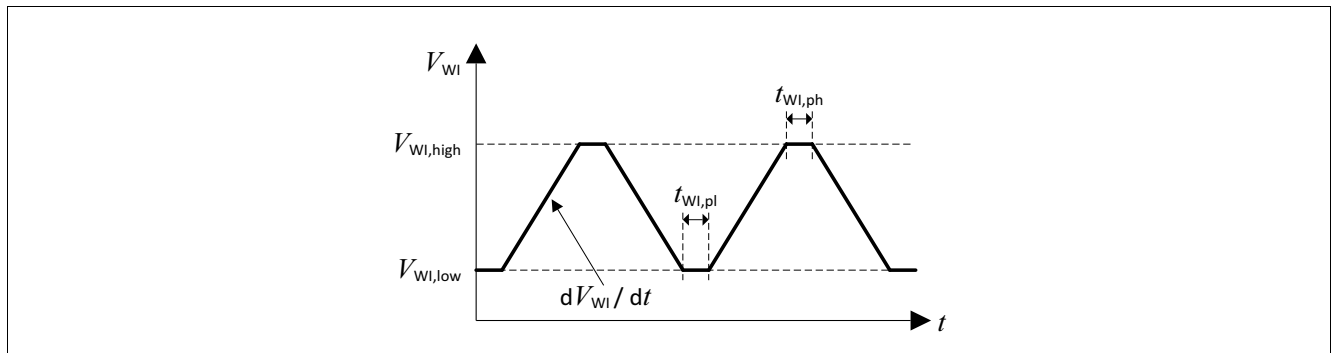

Figure 9 Test pulses watchdog input WI
The watchdog is triggered by a falling edge at the watchdog input pin “WI”. The amplitude and slope of this signal has to comply with the specification (Table “Watchdog input WI” on Page 26). For details regarding test pulses, see Figure 9 “Test pulses watchdog input WI” on Page 25.
1) For details on applied test pulse, see Figure 9